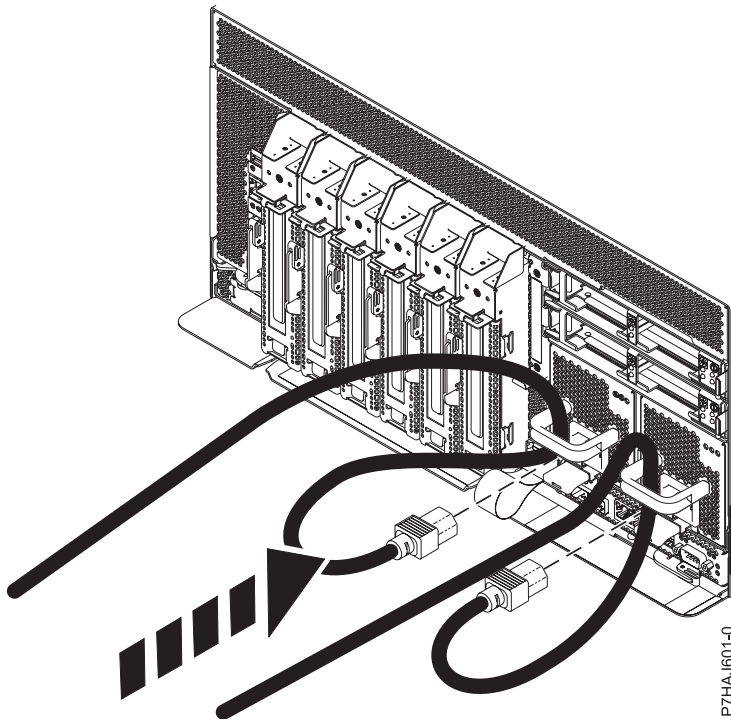

Figure 17. Connecting the power cords
2. Reconnect the power cord to the system unit as shown in Figure 17 on page 30. Ensure that the cords are threaded through the handles.